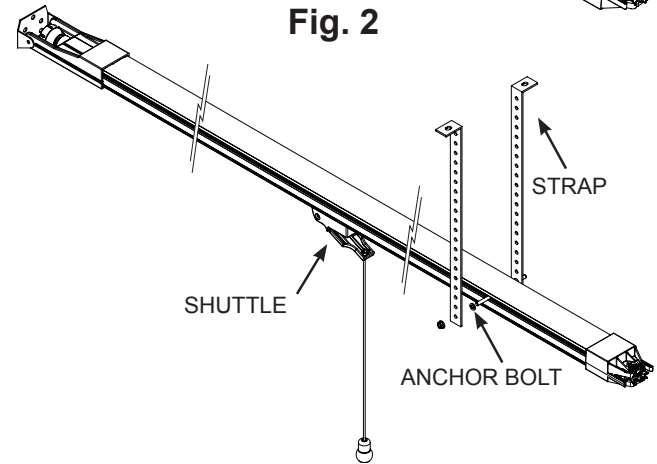

Fig. 3
- 2 Insert anchor bolts for mounting straps into both sides of track and slide forward at least 300mm (Fig. 3).